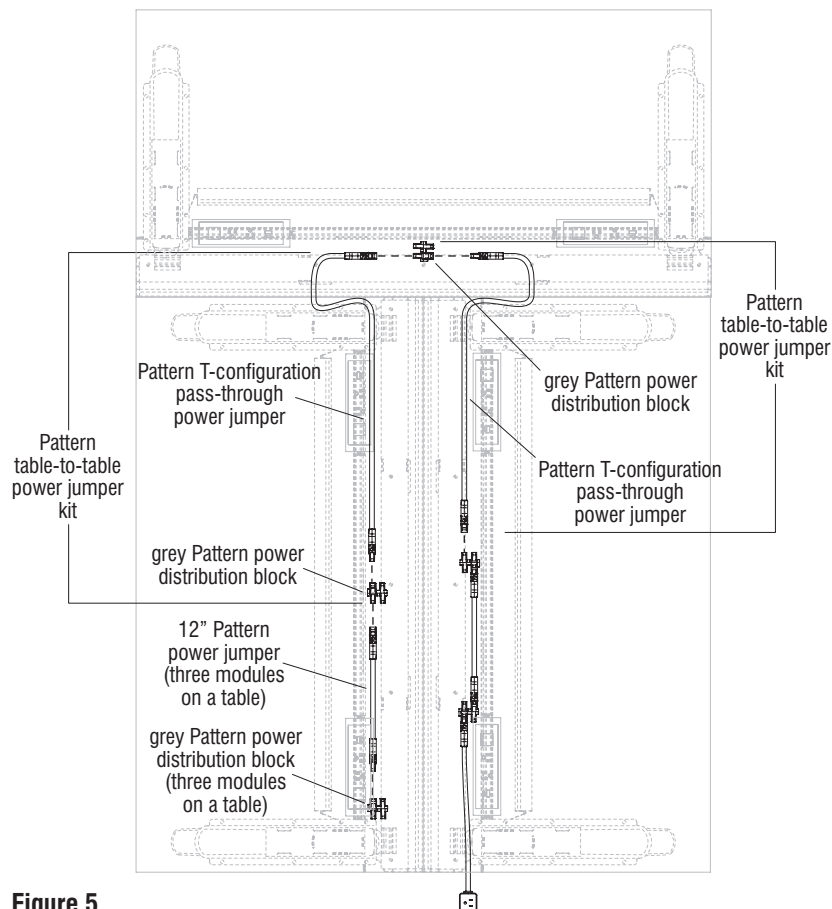

Figure 5
2. As illustrated, first plug one end of each Pattern T-configuration pass-through power jumper into a grey Pattern power distribution block. Feed the other end of the T-configuration jumper through the power pass-through ports at the back of the side table. Run the remaining jumpers along the length of the rectangular beam as illustrated and snap them into the grey Pattern power distribution block of the side table (Figure 5).